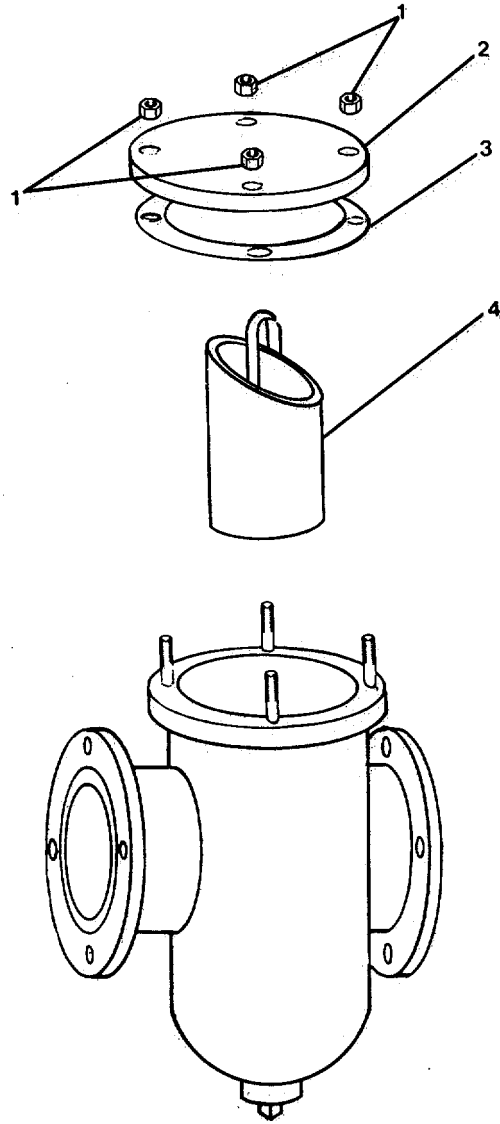

FIGURE 3-200. 4-Inch Sediment Strainer Basket, Repair.
**3-212. Repair 4-Inch Sediment Strainer Basket. (Figure 3-200)**